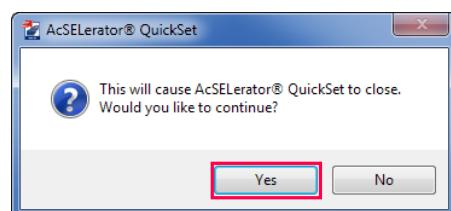

Figure 8.8 Confirm Closing QuickSet
Step 2. Confirm that you want to close QuickSet (see *Figure 8.8*).